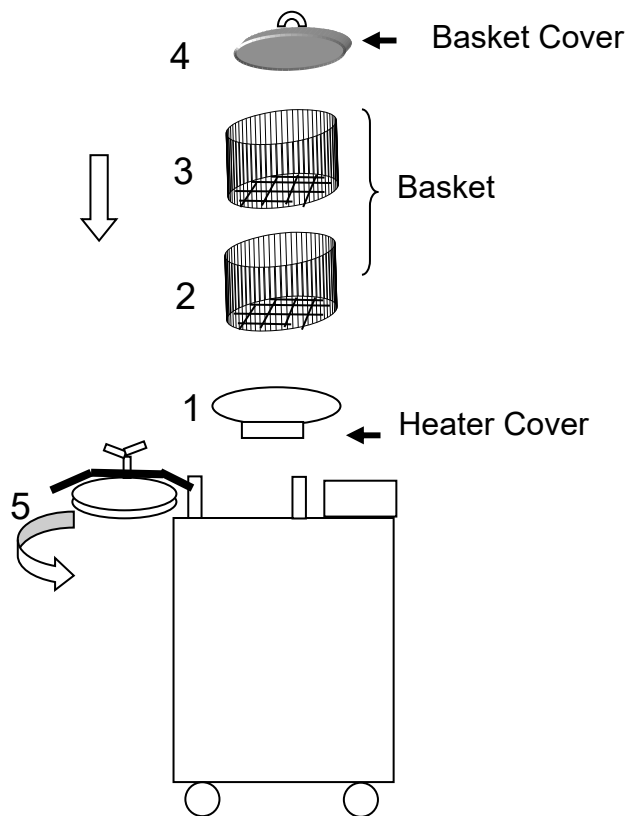

Figure 4-1
2. Place the baskets into the chamber is as following Figure 4-1:
2. Please reference the figure 4-1 for how to put baskets into the chamber.